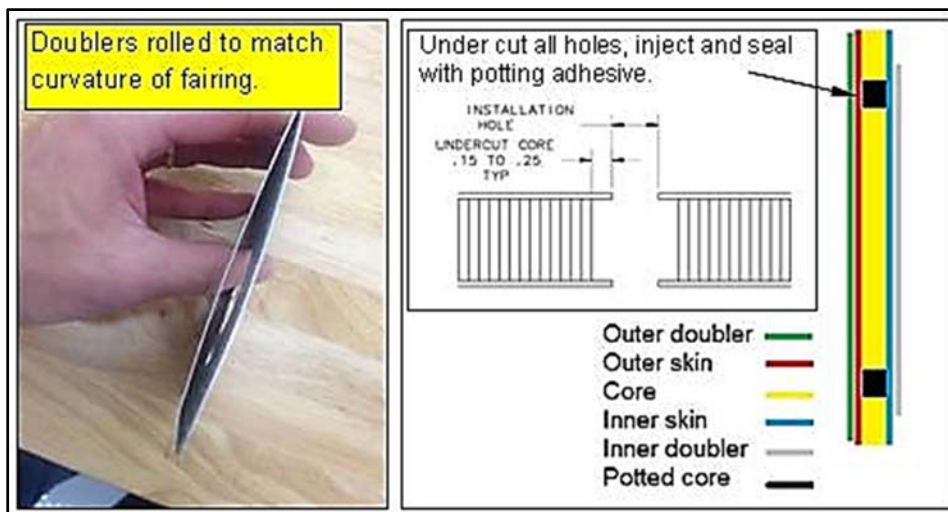

Figure 2. Example of composite panel layup. Undercut, pot, and seal of all open edges.
3. Fit doubler(s) and door to match surface contours (Figure 2).